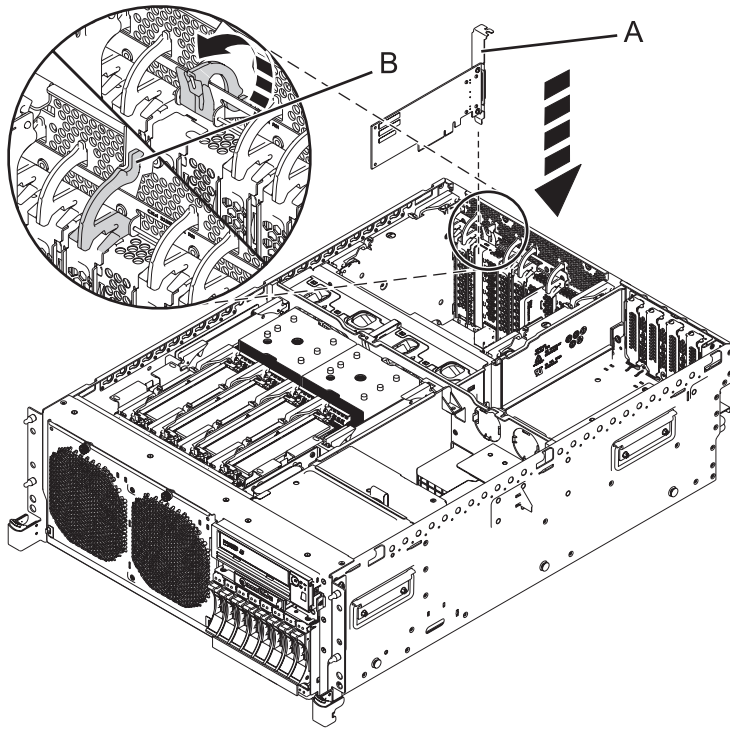

Figure 12. Replacing a PCI adapter in a rack-mounted system unit
16. Pull the adapter latch (B) back into place, as shown in Figure 12 and Figure 13 on page 18.